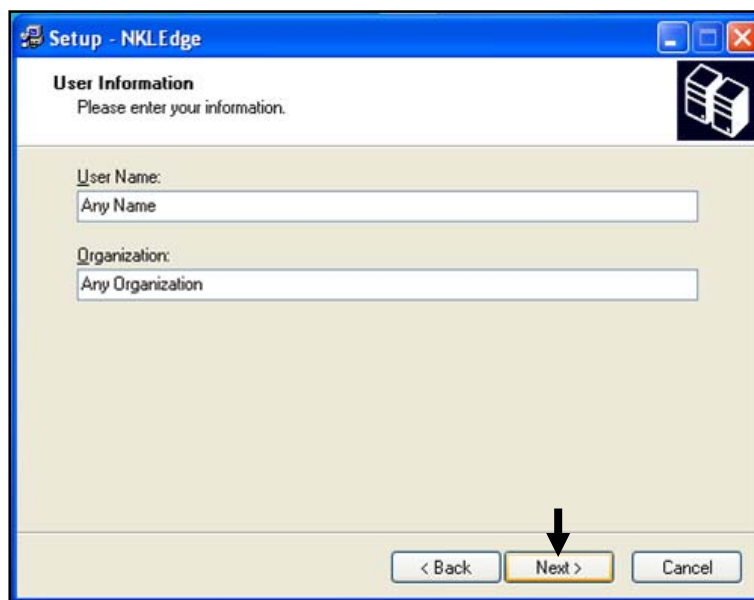

Fig 3.5
- 5) You may now enter the User Name and Organization if you wish (Fig. 3.5), once finished select **Next** to continue.